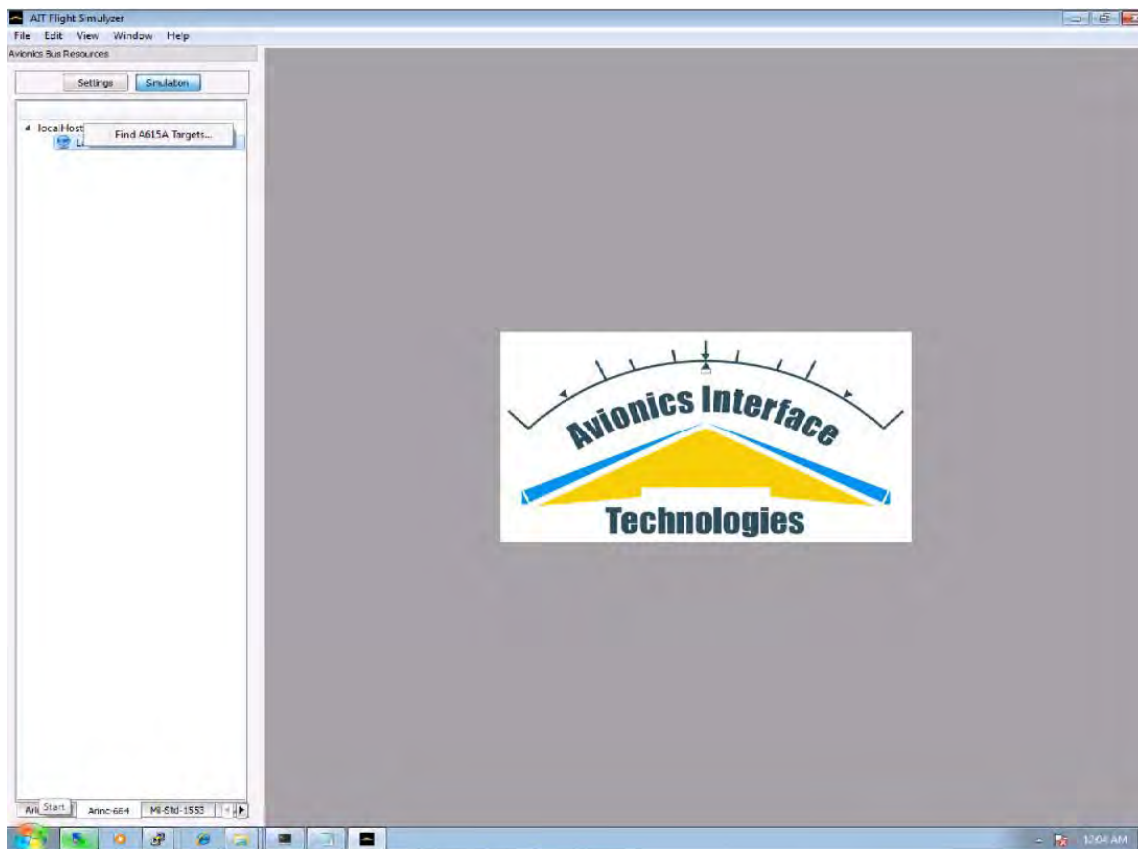

Figure 3-3. AIT F-SIM-LDR ARINC 615A Dialog Box
- (e) The dialog box for the ATI make F-SIM-LDR ARINC 615A data loader is shown in Figure 3-3.